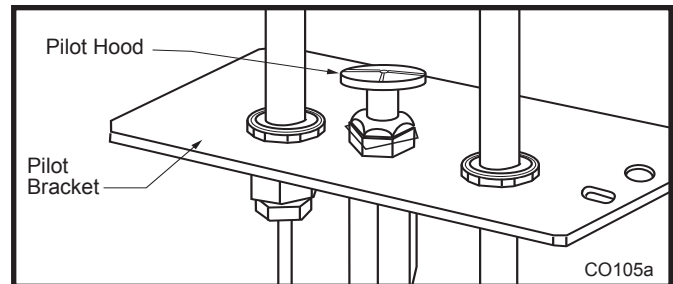

Fig. 69 Remove pilot hood.
1. Remove pilot hood by lifting up. (Fig. 69)